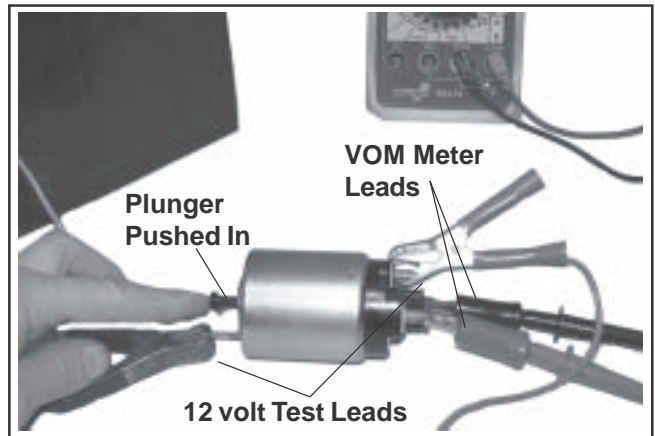

Figure 8-61. Testing Hold-In Coil/Solenoid Contact Continuity.
Use an ohmmeter set to the audible or Rx2K scale, and connect the two ohmmeter leads to the two large post terminals. Perform the preceding test (3) and check for continuity. See Figure 8-61. The meter should indicate continuity, if no continuity is indicated the solenoid should be replaced. Repeat test several times to confirm condition.